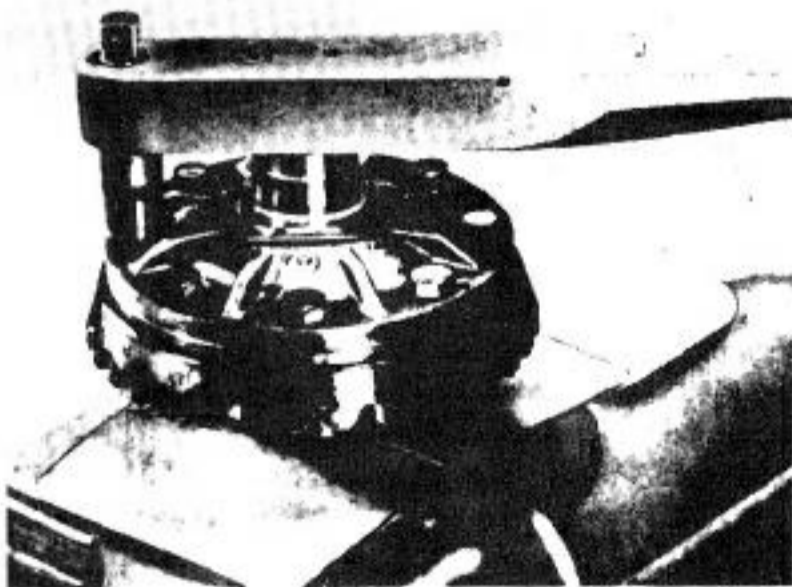

Fig. 11-23. Torquing ring gear bolts.
- With the ring gear and cover in place on the housing, tighten the ring gear bolts to 4.5 mkg (32.5 ft. lb.), working diagonally as shown in Fig. 11-23.